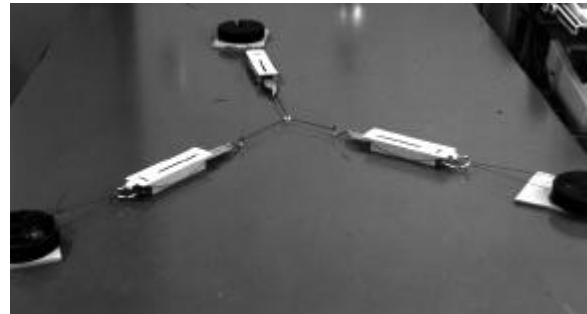

Figure 4 Sample setup of three forces acting on a small washer at equilibrium.
1. Attach three strings about 12 cm long to the small washer and connect the other end to spring balances, to the end connected directly to the center force indicating shaft. Connect string loops, about 8 cm long, to the other end of the spring balances and wrap these loops around the 1-2 kg weights (see figure 4). You will need to make sure that when there is no load on the spring balance the scale reads zero. If it does not, you will need to adjust it by sliding the metal tab at the top of the device.